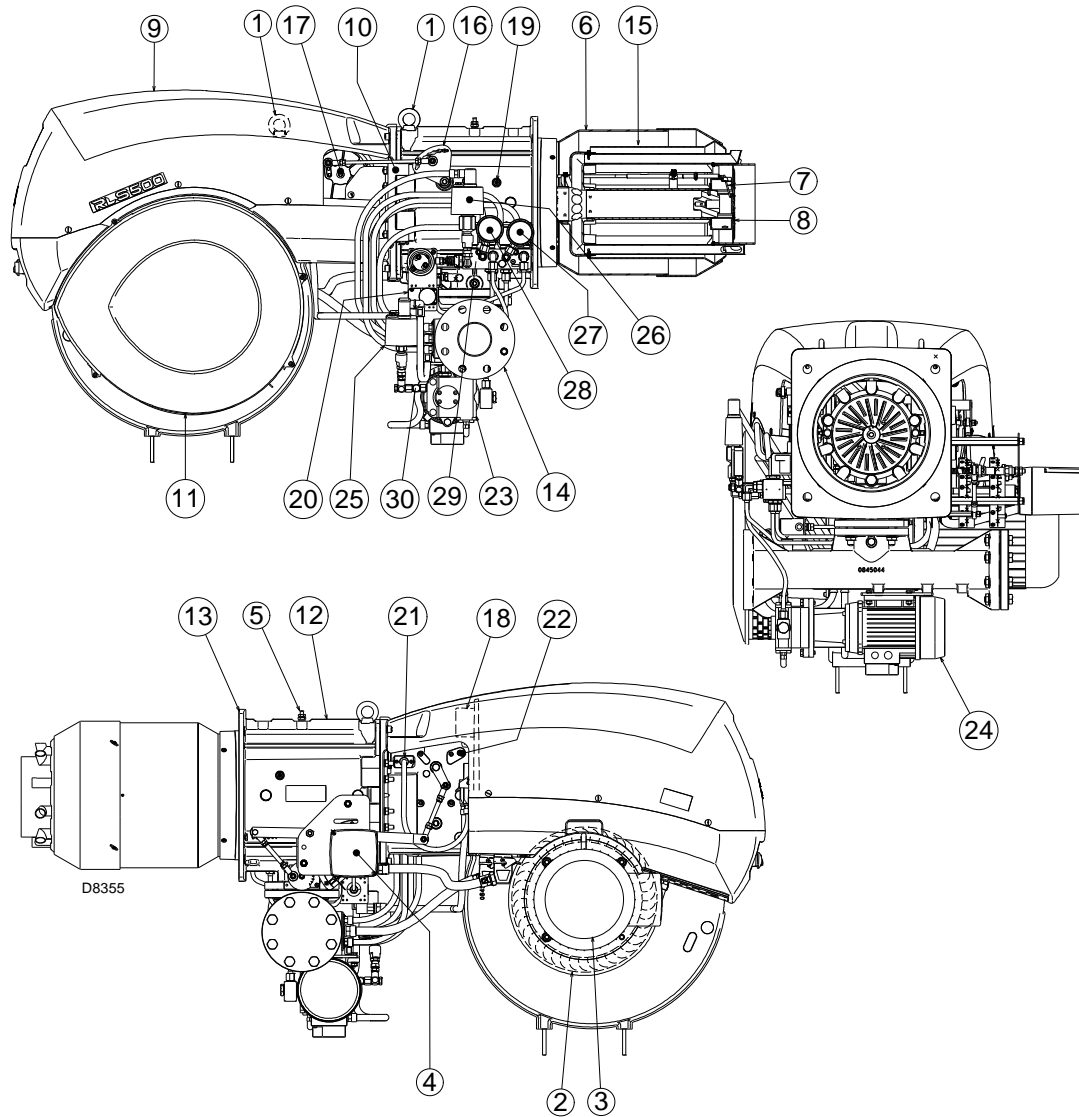

Fig. 4
(1) Reference conditions: Ambient temperature 20°C - Gas temperature 15°C - Barometric pressure 1013 mbar - Altitude 0 m a.s.l.
(2) Pressure at test point 5) (Fig. 4) with zero pressure in the combustion chamber and maximum burner output.
(3) Noise emission tests carried out as specified in EN 15036-1 with measurement accuracy $\sigma = \pm 1.5$ dB, in the manufacturer's combustion chamber with burner operating on test boiler at maximum output.